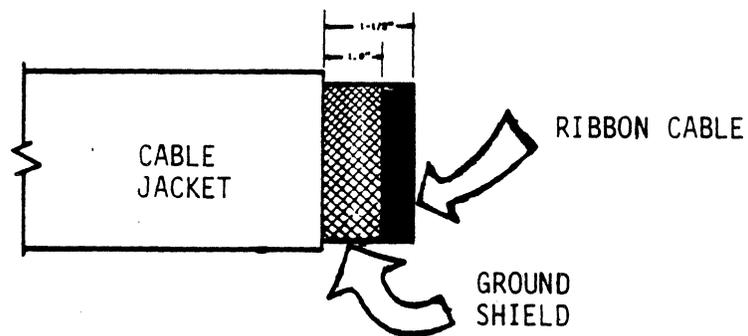

Figure 3-30. Cable Jacket
- a. Remove approximately 1-1/2 inches of the cable jacket on the transport end of the I/O cables (Refer to figure 3-30).